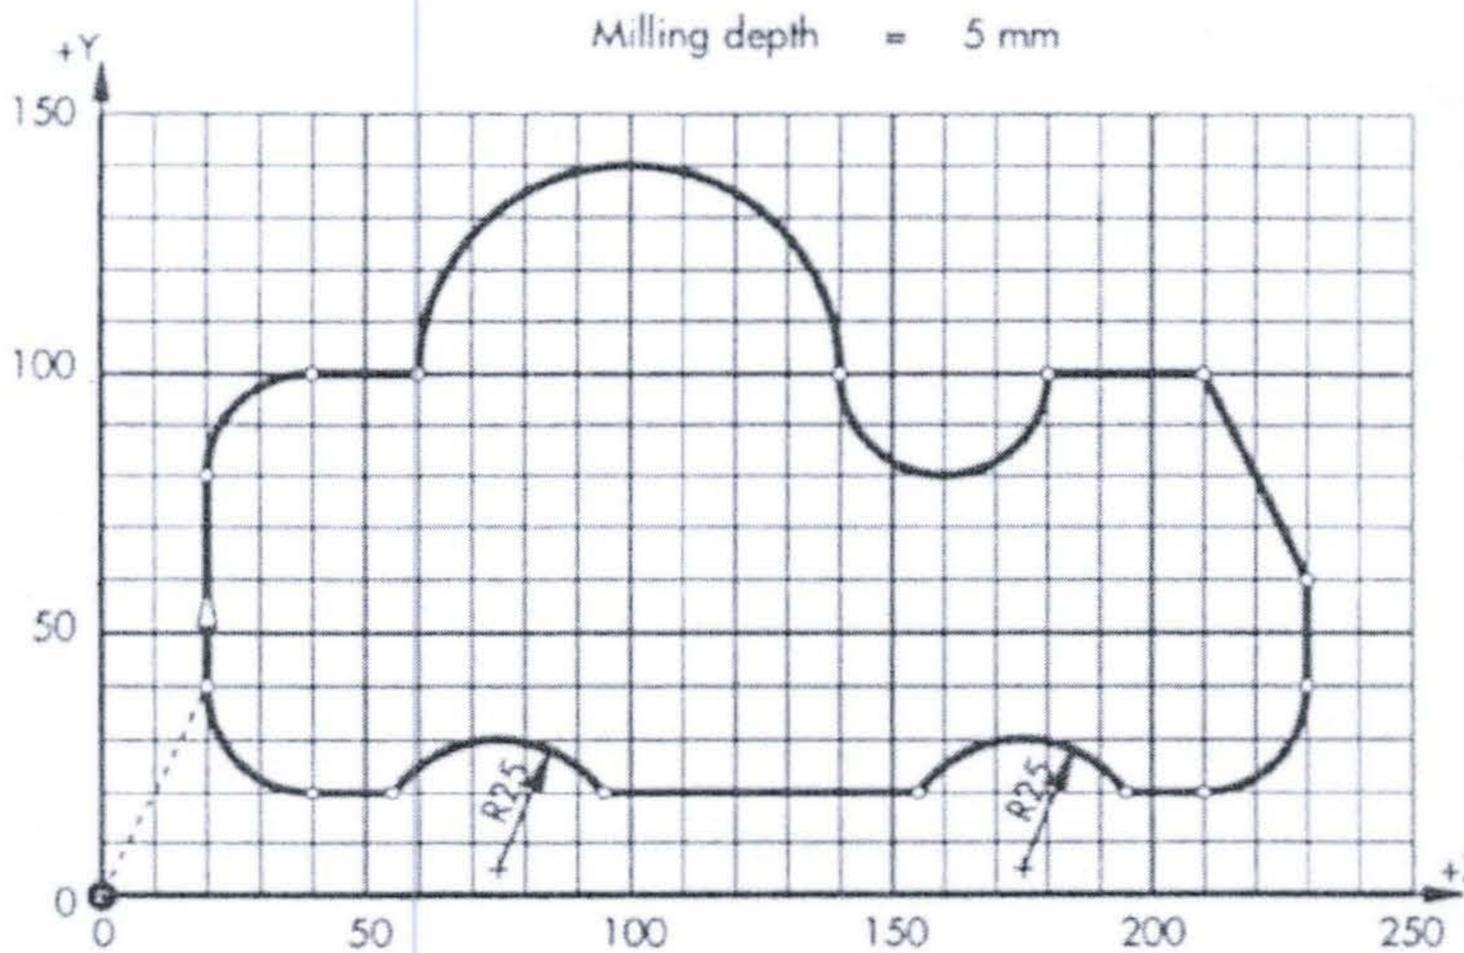

Figure QU6
- b) A full APT program is needed to machine the profile for a part given in Fig QU6. The cutter is to machine the outside surface in the counter-clockwise direction. Develop a complete APT Program for machining the part with the given machine condition: The dimensions of the stock material are 200 x 150 x 10mm. Given a milling tool T2 with diameter $D = 10$ mm, feed rate $F = 80$ mm/min, and spindle speed $S = 477$ rev/min. Any other information not given can be assumed and stated in the solution. [14]